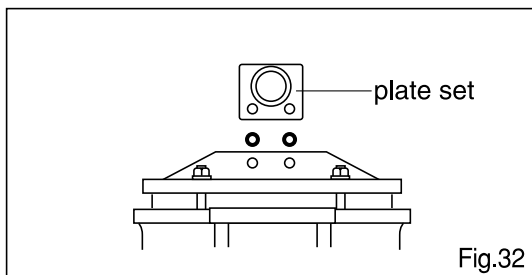

Fig.32
3. Removing plate set : Remove set bolt ⑥ to separate plate ② and plate set. (Fig. 32)